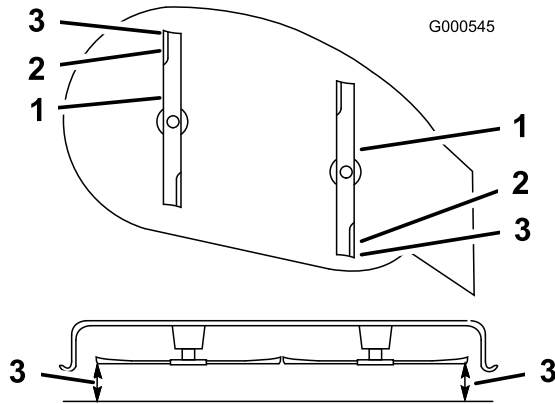

Figure 46
9. Set the height-of-cut at position **D** [3 inch (76 mm)] and carefully rotate the blades so they are facing front to rear (Figure 46).
10. Measure from the tip of the front blade to the flat surface and the tip of the rear blade to the flat surface (Figure 46). If the front blade tip is not 1/16-5/16 inch (1.6-7.9 mm) lower than the rear blade tip, adjust the front locknuts.